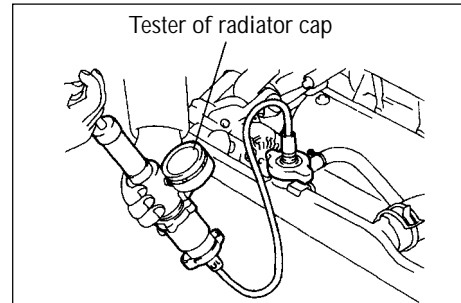

Figure 5-1
1. Check leakage in the cooling system (see Figure 5-1).